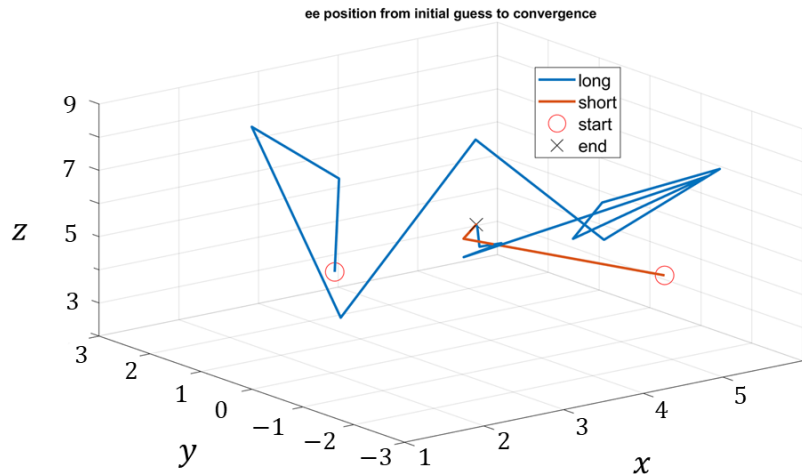

Figure 1 Sample figure for 3D plot, except your axis labels should include units (e.g., mm, cm, or m).
1. A 3D plot that shows the (x, y, z) position of the end-effector at each iterate, with a line between successive iterations. (See Figure 1 for an example.)